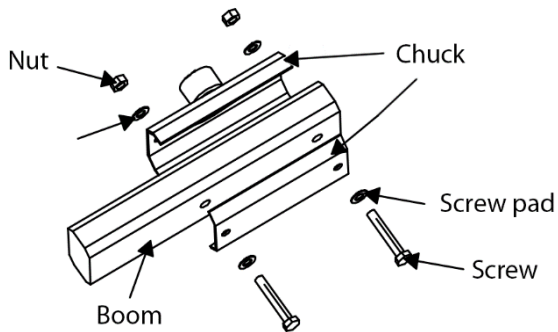

Figure 2 Installing the Boom to the Chassis
- Install the boom to the chassis (the frame), as shown in Figure 2.